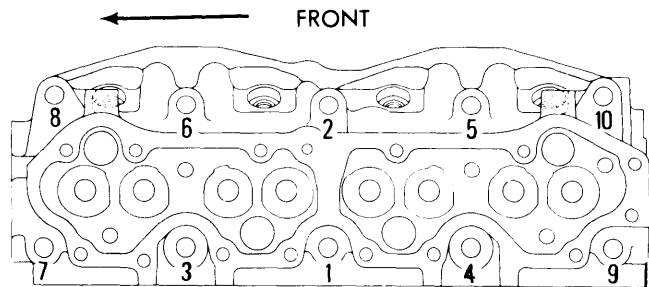

Fig. 1 Cylinder Head Tightening Sequence
- 5) Thoroughly clean gasket surfaces on crankcase and cylinder head. Use new gasket and install with word "Alto" up. Reverse removal procedure to install remaining components. Tighten cylinder head nuts in sequence shown in Fig. 1. Make sure timing belt is properly installed.